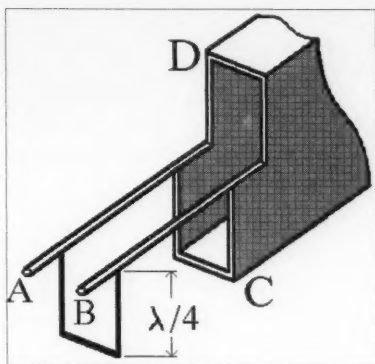

Fig. 3. Making a waveguide.
But suppose you used a pair of uninsulated wires (A and B in Fig. 3) held up by a wire loop, as shown at the left of the figure. If the wire loop was exactly 1/4 wavelength long, then its top would appear open even though the bottom is shorted. In other words, a perfect insulator made of metal!
In practice, this is a tad tough to fabricate. But since you can place these wire loops as close together as you want, there is no reason why they cannot be made into the continuous trough shown as C in Fig. 3. To prevent rainwater from collecting inside, we place another identical trough (D) above it, giving us a rectangular pipe called a *waveguide*. The signal simply travels along the inside edge of the pipe, roughly in the middle of the long side, which is now 1/2 wavelength long (1/4 wavelength from the middle toward each end).